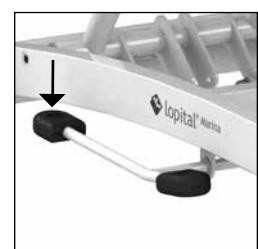

Figure 7 Moving upwards.
- The stretcher is moved upwards by depressing the long part of the foot pedal slowly and evenly (*See figure 7*).